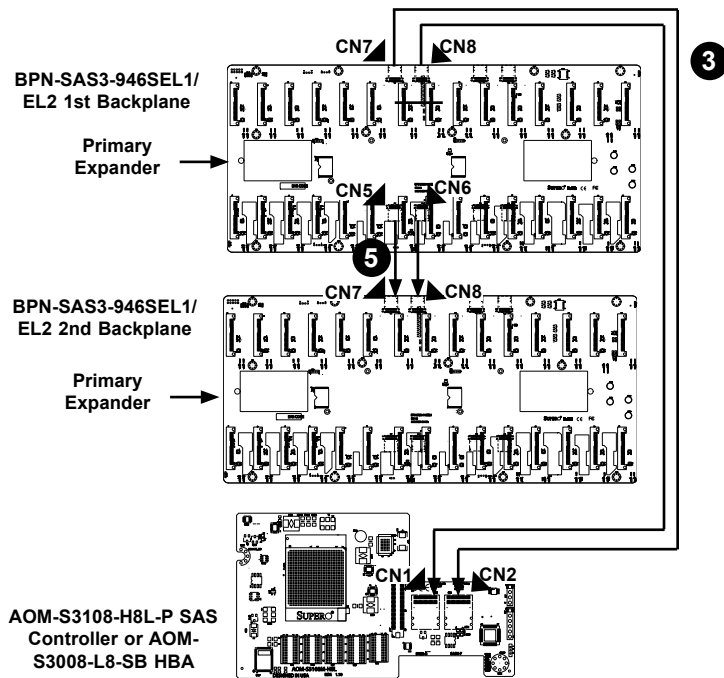

Figure 3-1. Backplane Cascading Configuration (EL1 Version)
3. Plug the cables into connectors CN7 and CN8, then route the cables to connectors CN1 and CN2 on the underside of the AOM-S3108-H8L-P SAS controller as illustrated in Figure 3-1.
5. Connect the cables to CN5 and CN6, then route them to CN7 and CN8 on the underside of the 2nd backplane as illustrated in Figure 3-1.